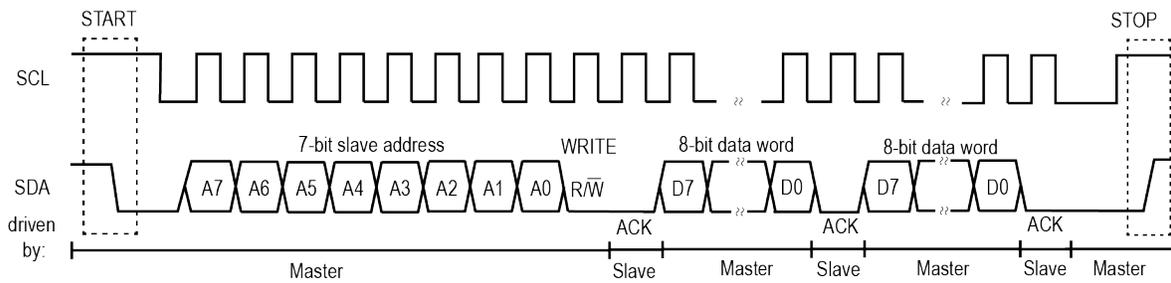
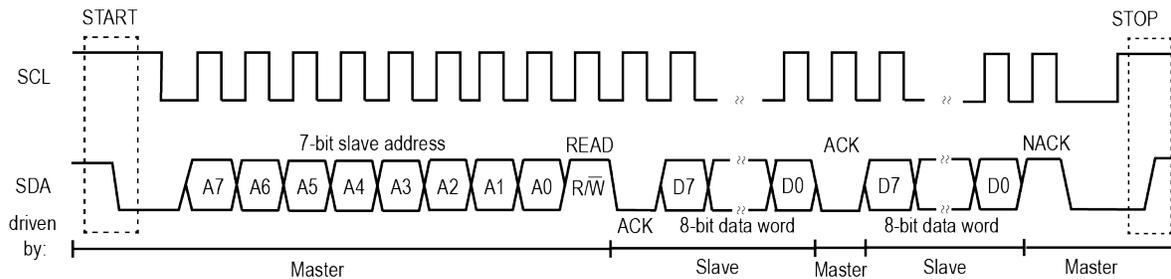

Figure 2-17 I²C Master Writing Two Bytes(7-bit Address)
Figure 2-18 I²C Master Reading Two Bytes(7-bit Address)
I²C is a synchronous serial communications protocol which allows a master to control multiple slave devices on the bus. Each transaction is initiated by the master and addressed to a specific slave. A typical transaction executes as shown in **Figure 2-17** and **Figure 2-18**. A detailed description follows the figures.
6. If the command was a `WRITE`, as shown in **Figure 2-17**, the master serially transmits 8-bit data words to the slave. Each byte is acknowledged by the slave.
7. If the command was a `READ`, as shown in **Figure 2-18**, the master releases the SDA line and allows the slave to transmit an 8-bit data word. The master issues an ACK after each byte until it has received the expected number of bytes. It issues NACK after the last byte.